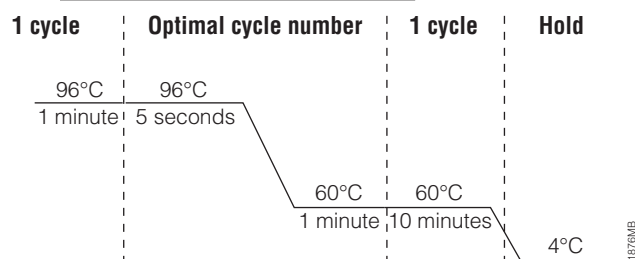

Figure 1. The thermal cycling protocol for the GeneAmp® PCR System 9700, Veriti® 96-Well Thermal Cycler and ProFlex® PCR System.
2. Select and run the recommended protocol, which is provided below and in Figure 1. The total cycling time is approximately 1 hour.